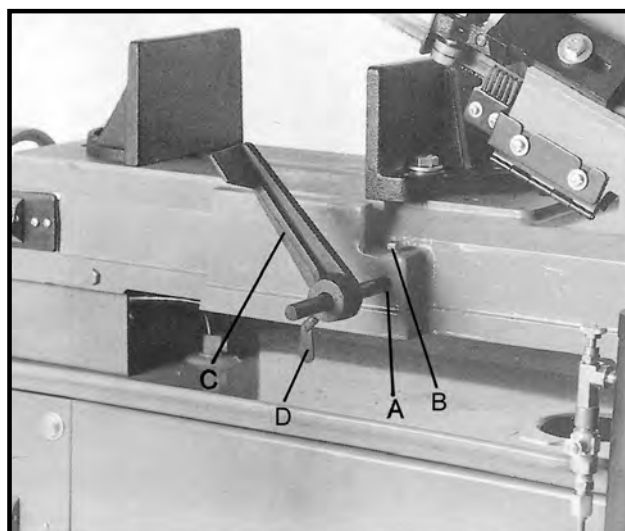

Fig. 1
4. Slide material stop bar (A, Fig. 1) into base and secure by tightening bolt (B). Slide material stop (C) onto bar and tighten bolt (D).